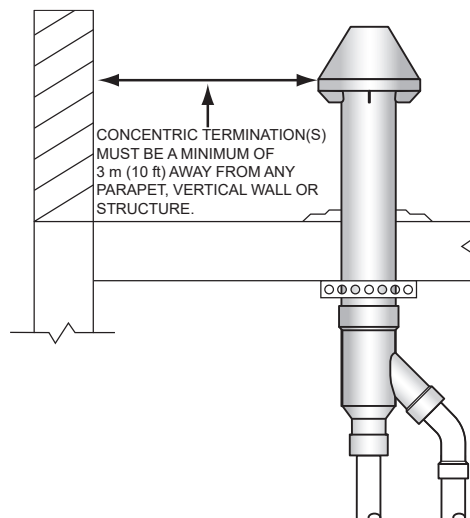

Figure 34. Concentric Termination - Roof Parapet Clearances
When installing a concentric termination vertically through a flat roof, the termination's vent cap must be a minimum of 3 m (10 ft) away from any parapet, vertical wall or structure as shown in **Figure 34**.
- C. Secure assembly to structure as shown in **Figure 34** or **Figure 34** using field-supplied metal strapping or equivalent support material.